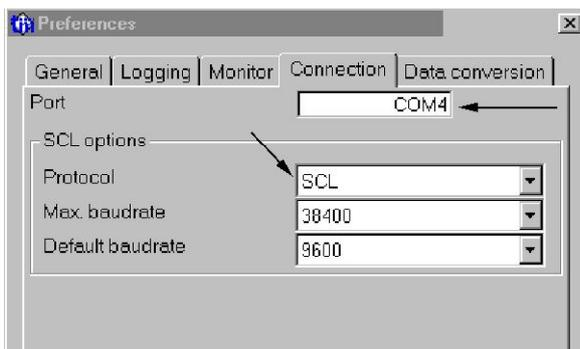

Fig 10.
- 8 In the 'Preferences' window, click on the 'Connection' tab. → Fig 10. (□ 17).
- 9 Check that the 'Protocol' is set to 'SCL'. → Fig 10. (□ 17). Change to 'SCL' if not already set.